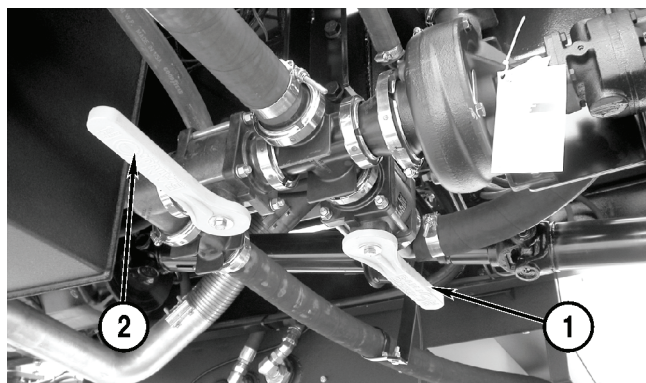

Figure 4-40
1. Open the product valve (**Figure 4-40, 1**).
4. Close the rinse tank valve (**Figure 4-40, 2**).